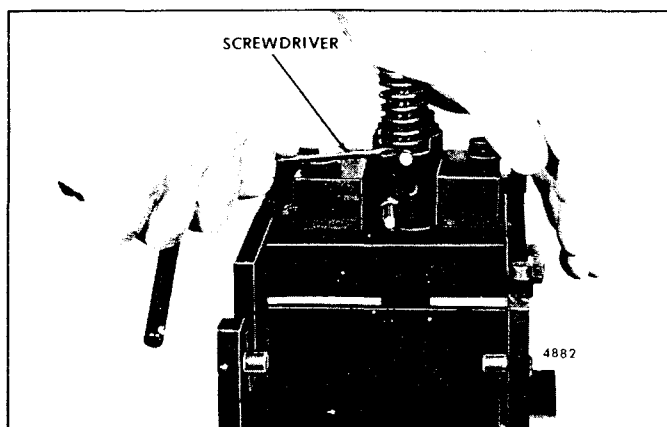

Fig. 10 – Removing Injector Follower Stop Pin
2. Compress the follower spring (Fig. 10). Then, raise the spring above the stop pin with a screwdriver and withdraw the pin. Allow the spring to rise gradually.